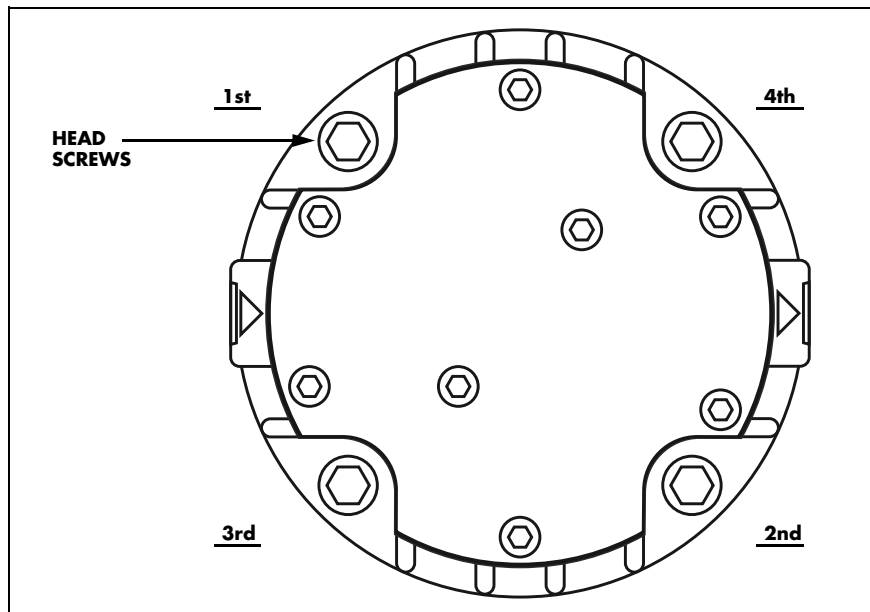

FIGURE 5-4 Screw Cross Pattern
7. Reinstall the pump heads (install new heads if at the 5000 hour interval) and tighten the four head screws to 25 inch pounds using the cross pattern as shown in FIGURE 5-4.